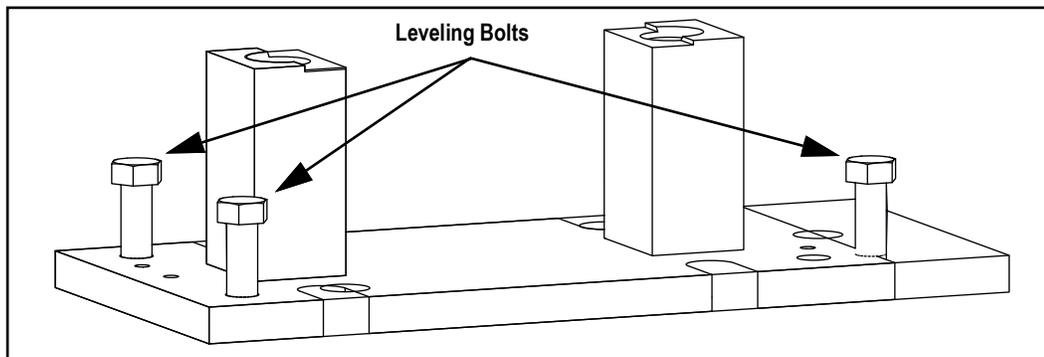

Figure 3-1. Partially Thread Leveling Bolts
**NOTE:** Thread leveling bolts prior to baseplate installation. Do not thread completely through the baseplate (see Figure 3-1). Omit leveling bolt installation if NOT grouting the scale.